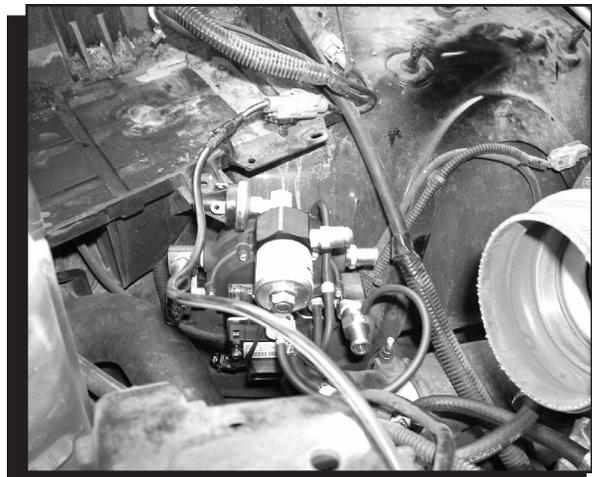

Figure 3 Mounting the Regulator Assembly.
3. Install the regulator assembly on the fender well using the supplied fender washers on the tire side of the fender well (Figure 3).